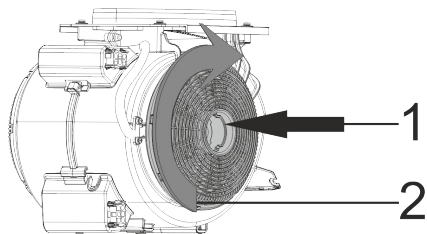

Fig. 6: CARBON FILTER
- 1-Place the carbon filter in its housing (Fig. 6).
- 2-Rotating the carbon filter clockwise, ensure that it is completely fit (Fig. 6).